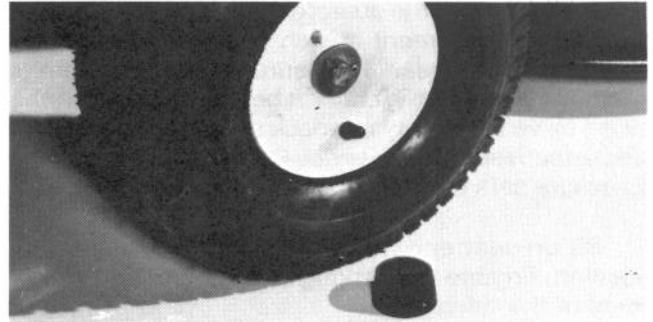

Figure 42
4. Remove the cotter pin and flange washer (Fig. 42) and remove the wheel from the axle.